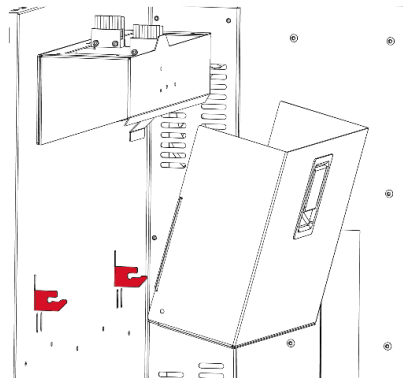

Fig. 79 Removing the cleaning station container – step 2
7. Lift the container slightly vertically and then slide it out of the two mounting hooks in the printer (Fig. 79, red).